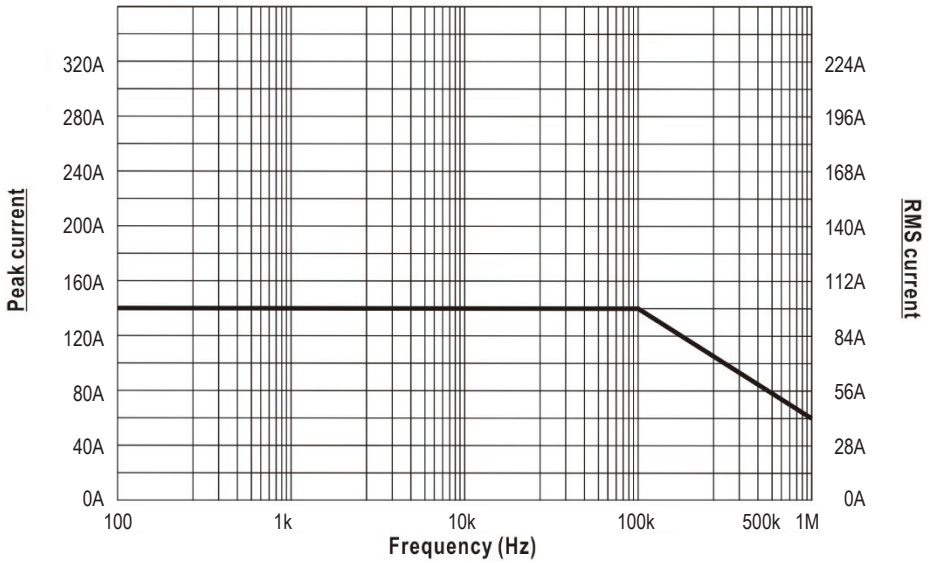

Figure 7. Maximum current versus frequency
*See Figure 7 for frequency derating.